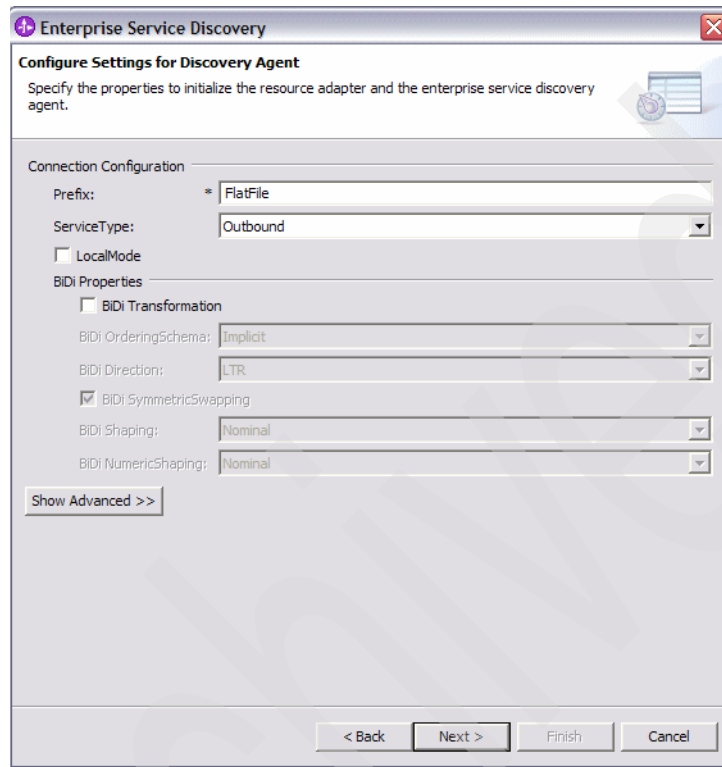

Figure 2-6 Select outbound service type
3. From the drop-down list, select **Service Type** → **Outbound**. Click **Next** (Figure 2-6).